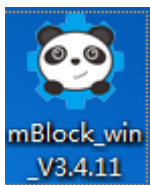
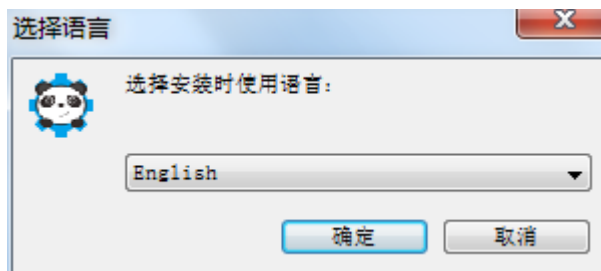

Figure 1-5
Figure 1-6
- 2) Double-click the installation package, as shown in Figure 1-5, then select language 'Chinese (Simplified)', click OK, as shown in Figure 1-6.